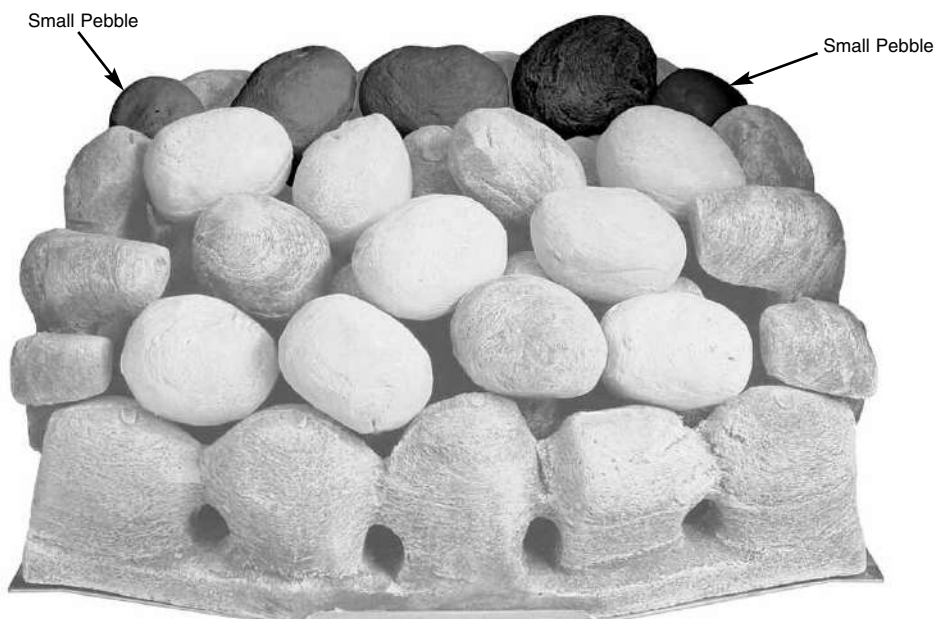

Fig. 27
8. Place the next three pebbles in the middle, on the back edge of the pebbles previously laid ensuring even gaps all round. Finally place the two small pebbles, one in each top corner. Make any adjustments necessary to achieve even gaps as this will help in giving a well balanced flame picture and an even glow (Fig. 27).